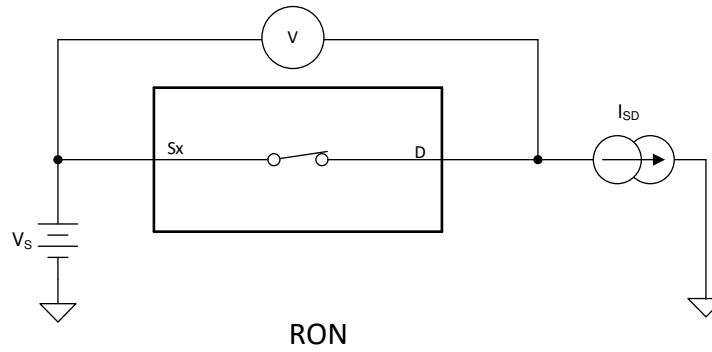

Figure 8-1. On-Resistance Measurement Setup
The on-resistance of a device is the ohmic resistance between the source (Sx) and drain (D) pins of the device. The on-resistance varies with input voltage and supply voltage. The symbol  $R_{ON}$  is used to denote on-resistance. Figure 8-1 shows the measurement setup used to measure  $R_{ON}$ . Voltage (V) and current ( $I_{SD}$ ) are measured using this setup, and  $R_{ON}$  is computed with  $R_{ON} = V / I_{SD}$ :